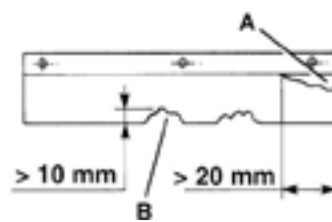
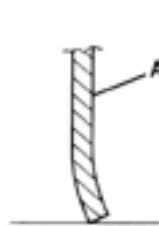
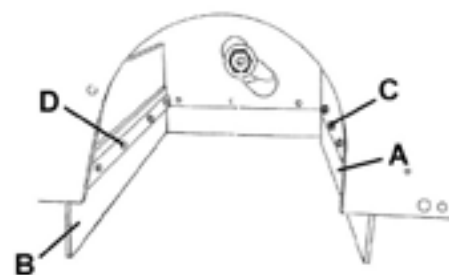

Figure12
Figure14
Figure17
- 1) Unscrew the knobs (17 and 34) and remove both left (16) and right covers (33).
- 2) Check the side skirts (11 and 12) for integrity. Replace the skirts when they have cuts (A, Fig. 12) larger than 0.79 in (20 mm) or cracks (B) larger than 0.39 in (10 mm) (for skirt replacement).
- 2) Check the front (13) and rear skirts (14) for integrity. Replace the skirts when they have cuts (A, Fig. 12) larger than 0.79 in (20 mm) or cracks (B) larger than 0.39 in (10 mm) (for skirt replacement).
- The front skirt (A, Fig. 17) slightly touches the floor (A, Fig. 14).
- The distance from the ground of the rear skirt (B, Fig. 17) is within 0-0.12 in 0-3 mm (A, Fig. 12).
- 4) If necessary, adjust the skirt height by using the slots on the screws (C and D, Fig. 17).